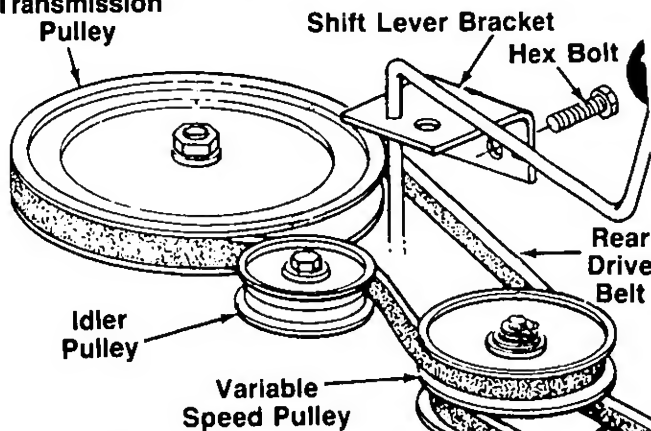

FIGURE 26.
3. Push the idler pulley toward the right side of the unit. Lift the belt over the idler pulley. See figure 26.
5. Remove the two bolts which hold the shift lever bracket to the frame on the left side of the unit. Swing the bracket toward the right so the belt can be removed from the transmission pulley. See figure 26.